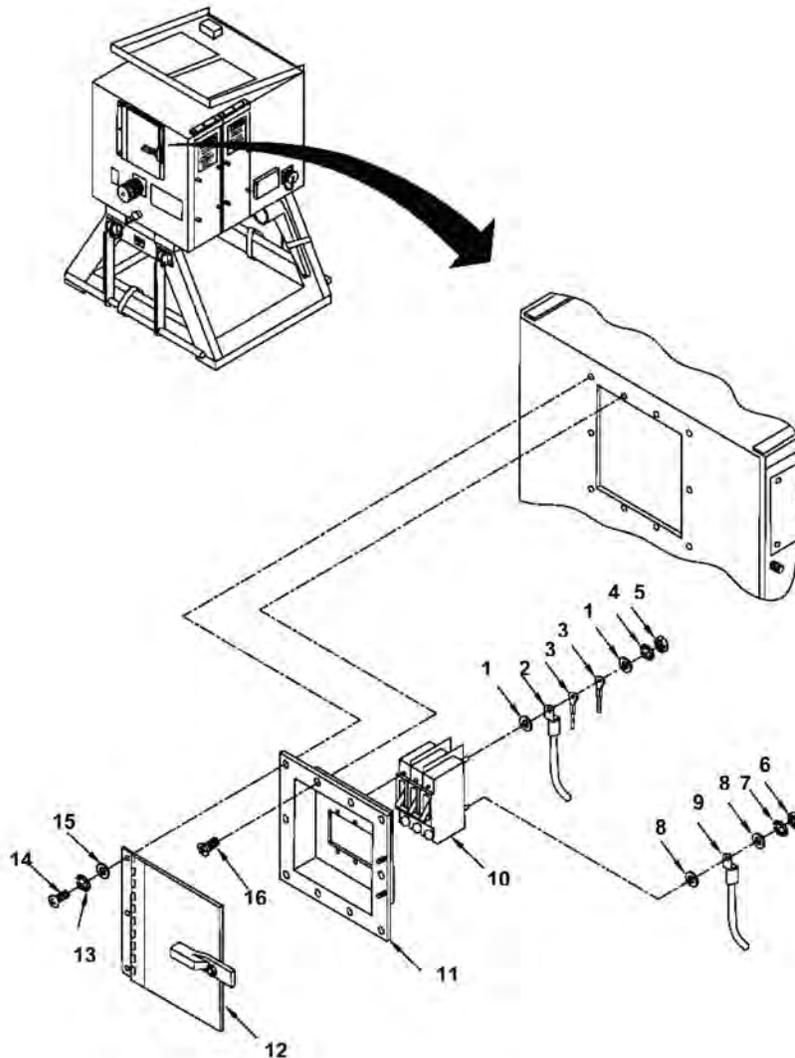

Figure 1. Circuit Breaker CB5 (PP-8440A Only).
12. Install six flat washers (Figure 1, Item 8), three wires (Figure 1, Item 9), three lock washers (Figure 1, Item 7) and three nuts (Figure 1, Item 6) on bottom studs of circuit breaker/CB5 (Figure 1, Item 10).
13. Install six flat washers (Figure 1, Item 1), three wires (Figure 1, Item 2), six wires (Figure 1, Item 3), three lock washers (Figure 1, Item 4) and three nuts (Figure 1, Item 5) on top studs of circuit breaker/CB5 (Figure 1, Item 10).
15. Place rear entrance panel (Figure 1, Item 11) in position on rear of PDB and install seven screws (Figure 1, Item 16) to secure it to PDB.
16. Place rear access cover (Figure 1, Item 12) in position on rear entrance panel (Figure 1, Item 11) and install three flat washers (Figure 1, Item 15), three lock washers (Figure 1, Item 13) and three screws (Figure 1, Item 14) to secure it to PDB.
17. Close and latch rear access cover (Figure 1, Item 12).